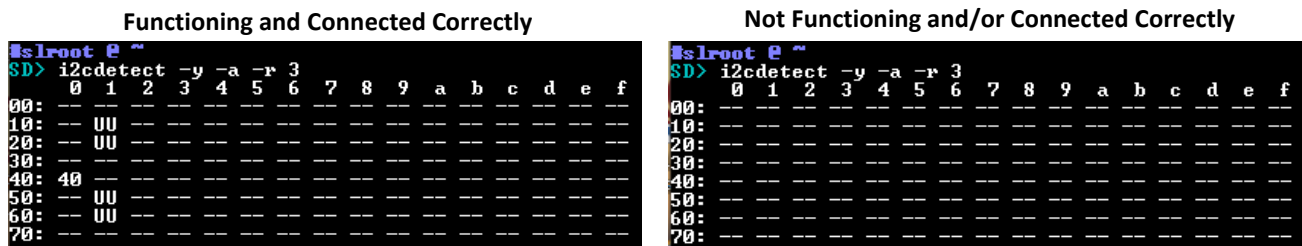

Figure 14: I2C Bus 3 Detect with Tera Term
3. Run command: `i2cdetect -y -a -r 3`. The status of the SLA-4000-MIPI-IN board in Tera Term is shown in Figure 14.